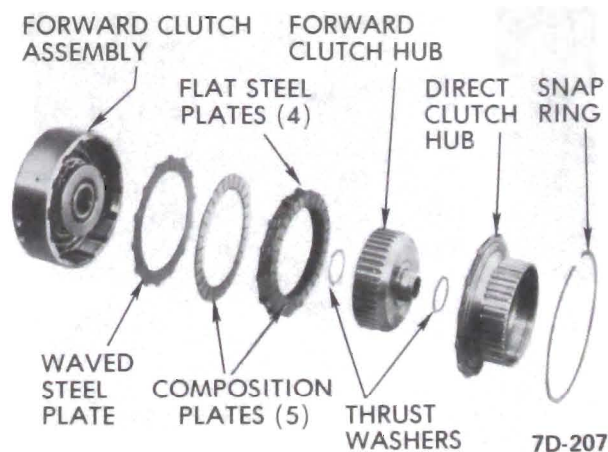

Figure 7D-139
B. Wipe steel plates dry and check for heat discoloration. If the surface is smooth and an even color smear is indicated, the plates should be reused. If severe heat spot discoloration or surface scuffing is indicated, the plates must be replaced. See Figure 7D-139.